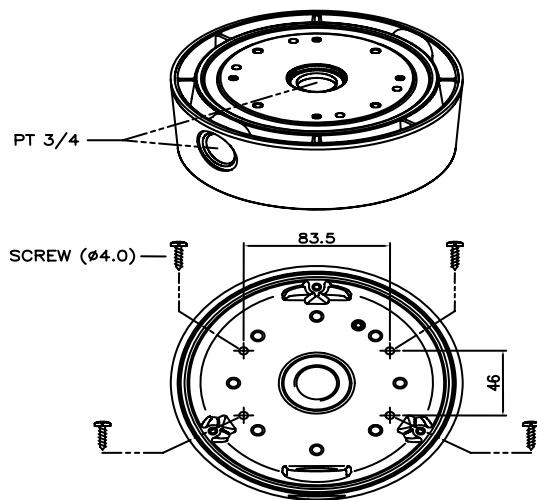

FIG. 4
1. Attach the surface mount adaptor with 4 screws at the installation site. (FIG.4)